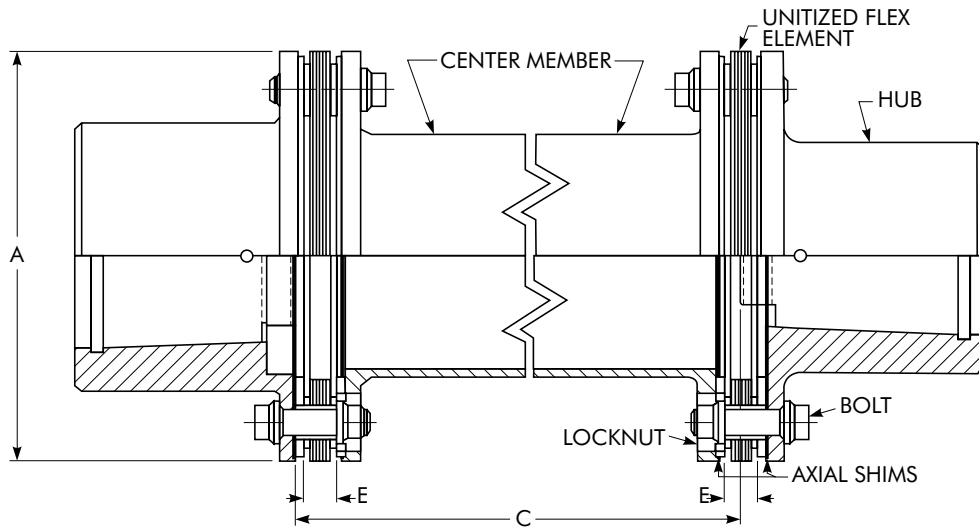

Figure 1
- B. **Axial Spacing** — The axial spacing of the shafts should be positioned so that the disc packs (flexing elements) are flat when the equipment is running under normal operating conditions. This means there is a minimal amount of waviness in the disc pack when viewed from the side. This will result in a flexing element that is centered and parallel to its mating flange faces. Move the connected equipment or adjust the axial shims provided to accomplish the above. As a guide, maximum and minimum values for dimension “E” are given in Table 1. See Figure 1 and the assembly drawing for number of shims at each location. For a more exact number for “E”, see Figure 6.
A. **Standard Design** — (See Figure 1 and/or assembly drawing.)